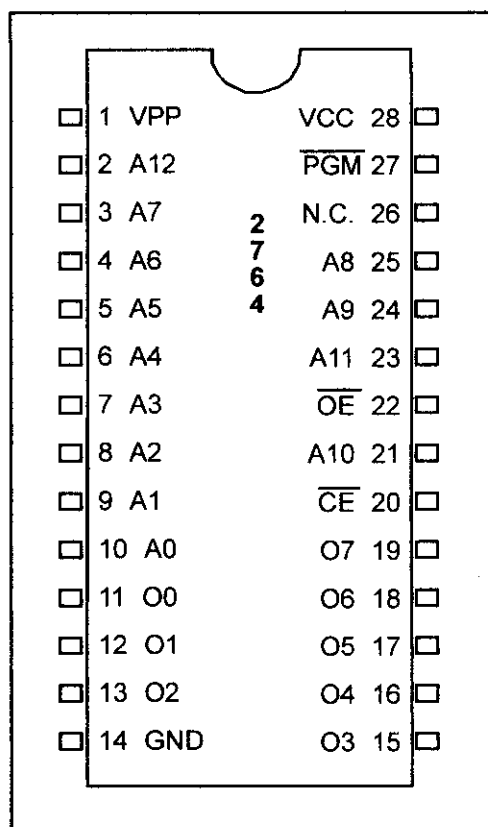

Figure 10-1. UV-EPROM Chip
EPROM was invented to allow changes in the contents of PROM after it is burned. In EPROM, one can program the memory chip and erase it thousands of times. This is especially useful during development of the prototype of a micro-processor-based project. The only problem with EPROM is that erasing its contents can take up to 20 minutes. All EPROM chips have a window that is used to shine ultraviolet (UV) radiation to erase its contents. For this reason, EPROM is also referred to as UV-erasable EPROM or simply UV-EPROM. Figure 10-1 shows the pins for a 64Kbit UV-EPROM chip. Notice the A0 - A12 address pins and O0 - O7 (output) for D0 - D7 data pins. The OE (out enable) is for the read signal.